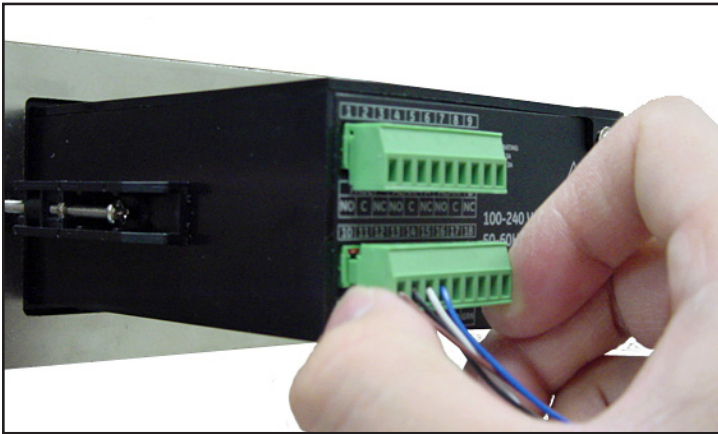

Figure 29: Reinserting the Connector into the Terminal Block
4. Reinsert the connector into the lower terminal block on the rear of the **dew.IQ** (see *Figure 29* below).